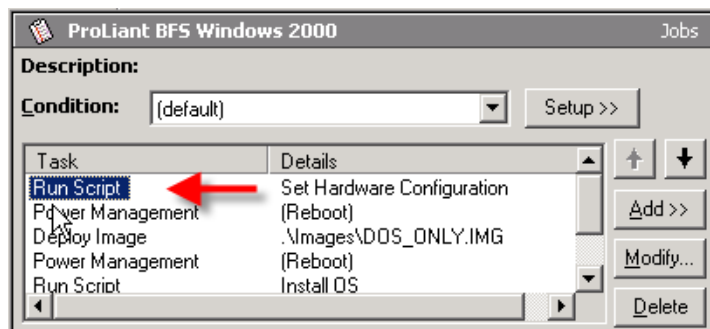

Figure 15: Selecting the run script
- d. Select the RunScript as shown in Figure 15: